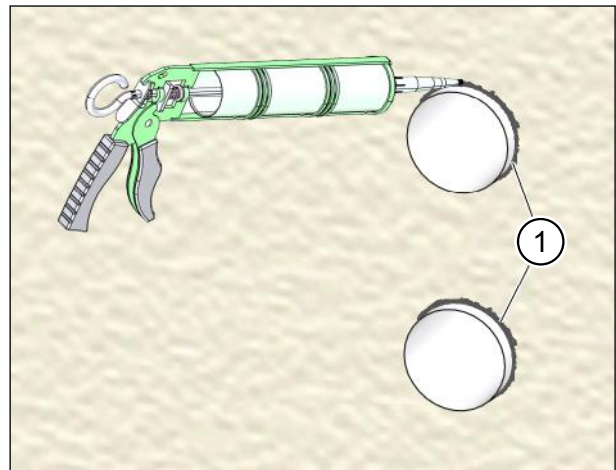

Fig. 20: Sealing ventilation pipes on external wall
- ▶ Chamfer both pipe breakthrough edges (item 1 in Fig. 20) to roughly 5x45° to create enough space for the sealing joints with permanently elastic sealant.